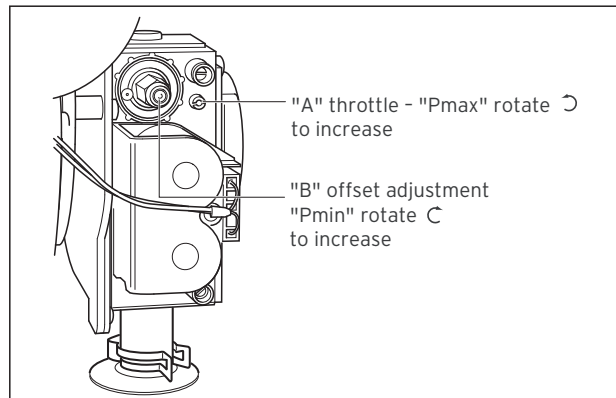

Fig. 6.1 Gas control valve
- Turn the gas valve "A" throttle screw (Ref fig.6.1) fully clockwise.